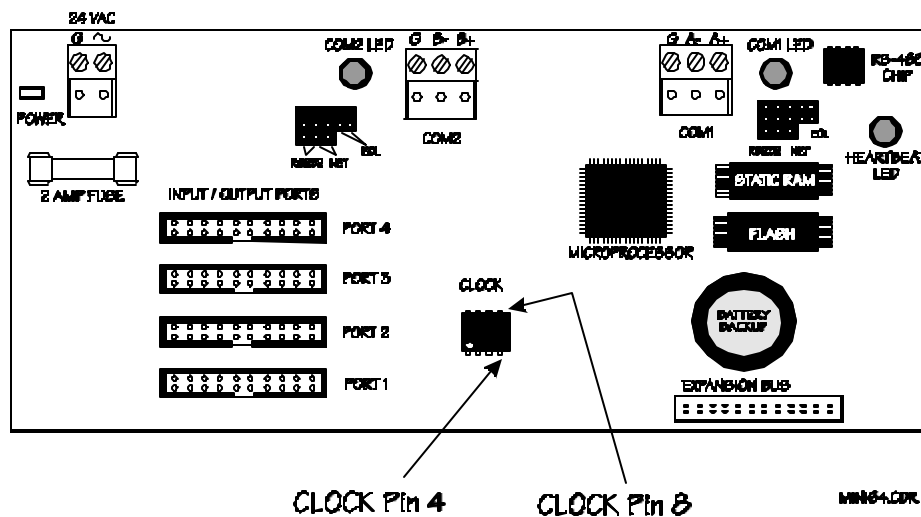

Figure 32: MINI 64 clock location.
- ✓ Locate the real time clock as shown in Figure 32, and short the pins 4 and 8 using some metallic wire. Hold for about 10 seconds. Another method is to turn the MINI around and short the green capacitor terminals (battery backup).